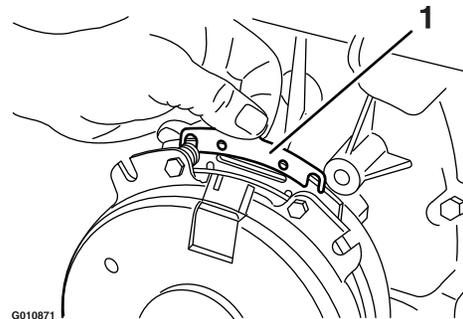

**Figure 72**
- A. Loosen both brake mounting bolts 1/2 to 1 full turn as shown in Figure 72.